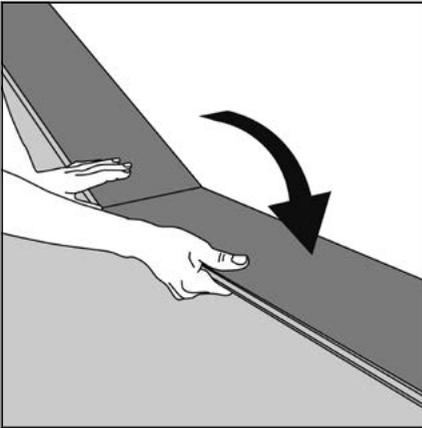

Figure 11 Second plank, first row
- ▶ Press the short end of the next plank/tile at an angle to the first one (fig. 11), and then lay down. Complete the first row in the same way.